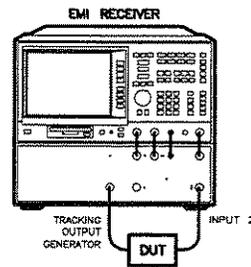

Figure 7-2. Transmission Measurement Test Setup
2. To measure the rejection of a bandpass filter, connect the equipment as shown in Figure 7-2. This example uses a bandpass filter with a center frequency of 321.4 MHz as the DUT.